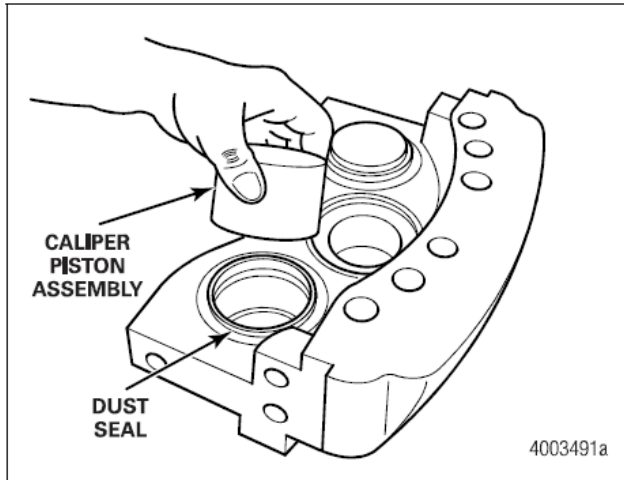

Figure 3.11
15. Use a suitable dowel or punch that fits in the adjuster pin to push the service pistons out of each caliper housing, Figure 3.11.